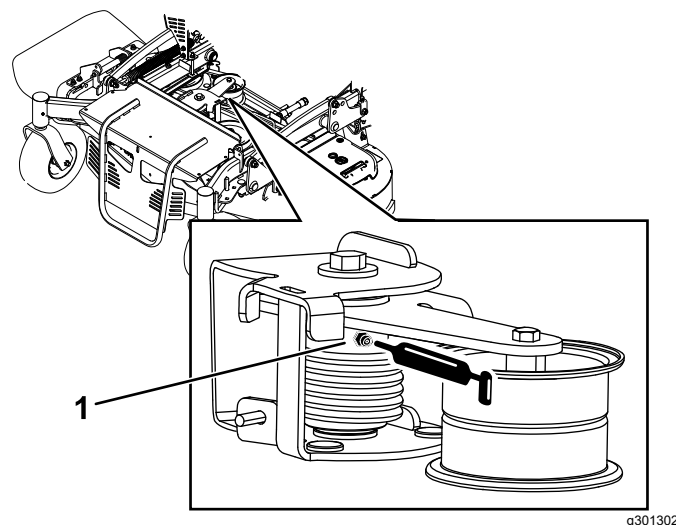

**Figure 37**
2. Remove the idler cover (Figure 37).
4. Install the idler cover (Figure 37).